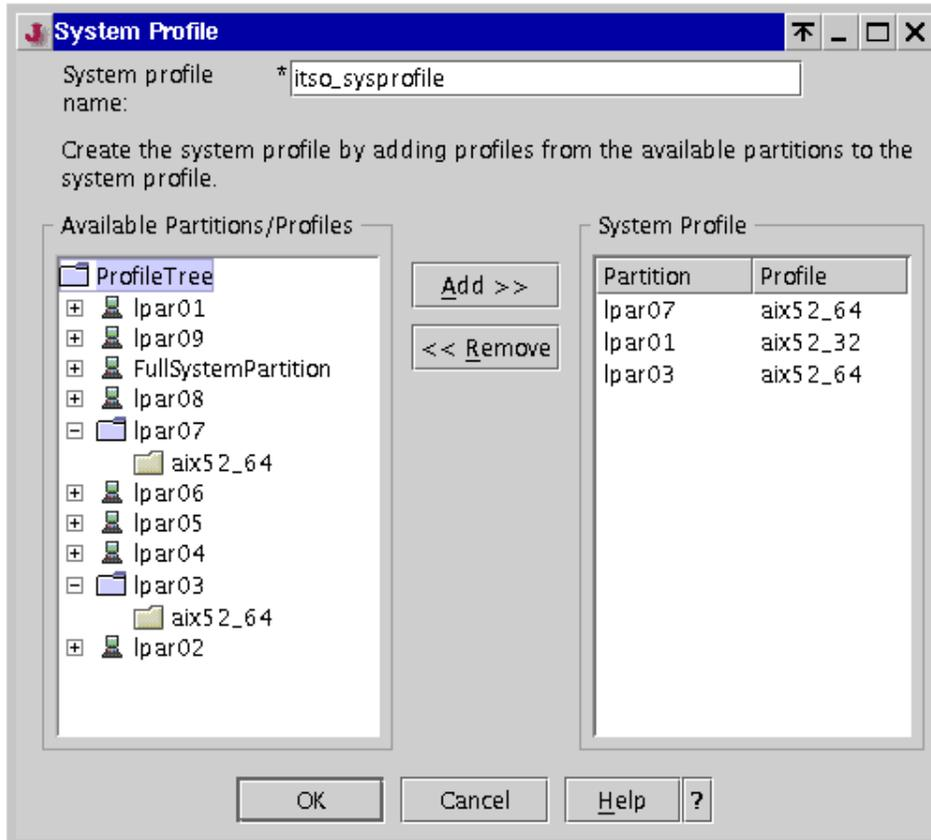

Figure 6-11 Setting up the system profiles menu
2. The System Profile panel opens, as shown in Figure 6-11 on page 181. In this example, we named a system profile `itso_sysprofile` and included three partition profiles.
For example, if you activate the system profile `itso_sysprofile` in Figure 6-11 on page 181, the following three partitions shown in Table 6-1 will be activated in this order.